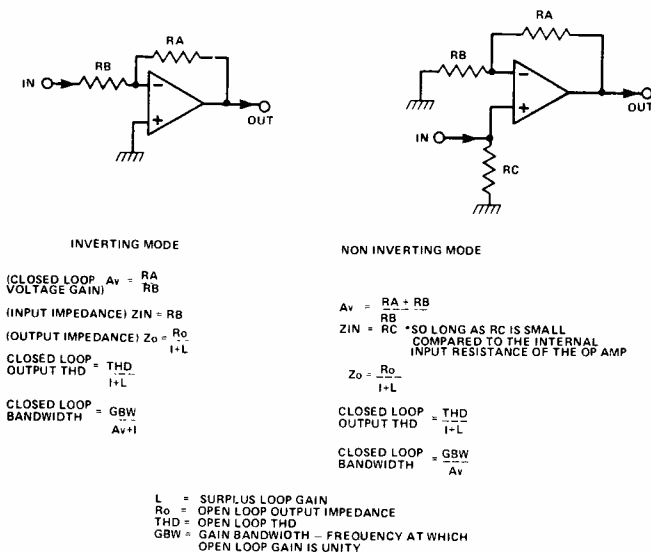

Fig.2. A comparison of the performance of inverting versus non-inverting configurations.
open loop voltage gain rolls off at  $-6$  dB per octave. By applying feedback around the op amp (closed loop), the gain is stabilised and is held constant by the resistor ratio until the device runs out of bandwidth. The difference between the open and closed loop gain is known as the surplus loop gain. This surplus loop gain is the negative feedback that is used to iron out non-linearities in the op amp. As the size of the surplus loop gain decreases with increasing frequency, the distortion and output impedance increase. Fig.2 compares the performance of inverting versus non-inverting configurations.
A. First, try the inverting mode as shown in Fig.2.